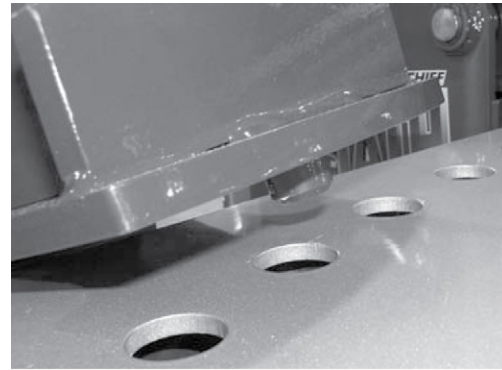
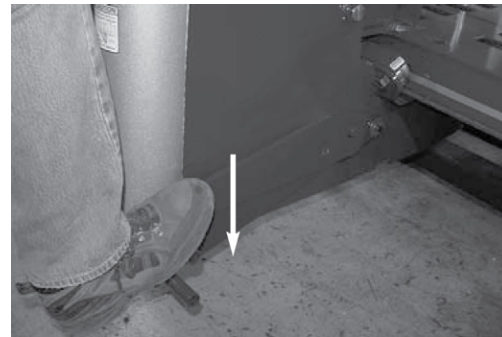

Figure 7
Figure 8
4. To secure tower to mainframe, rotate "Sure-lock" lock lever back and down to engage "Sure-Lock" force clamp with mainframe pinning hole, Figure 7. Fully lock "Sure-Lock" by stepping on lock lever. "Sure-Lock" force clamp is fully engaged when outer tower rollers are raised above the outer track, Figure 8.